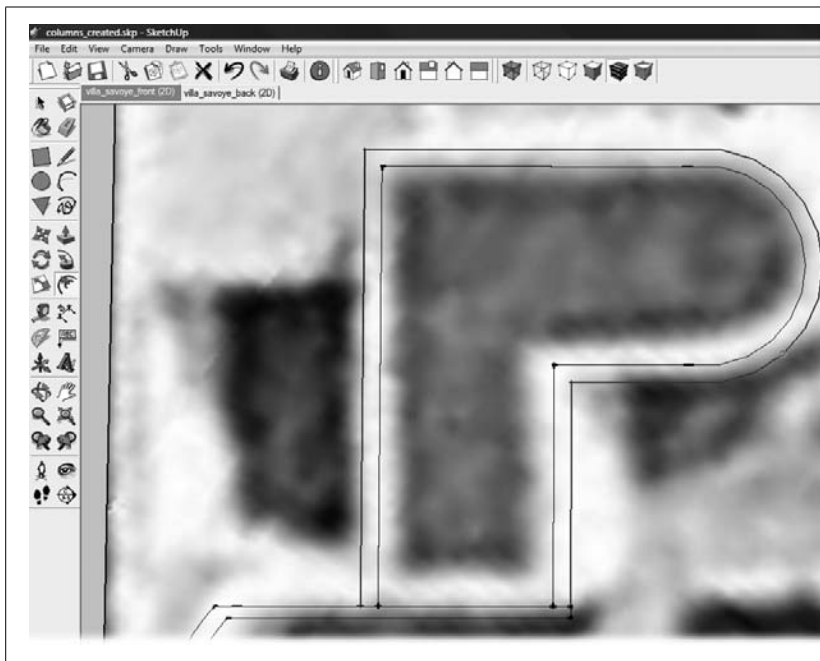

Figure 10-21:
- Use the Line (L) and Arc (A) tools to trace the lines of the roof wall.
- Use the Offset tool to create new lines 6 inches inside the “P” shape (Figure 10-21).